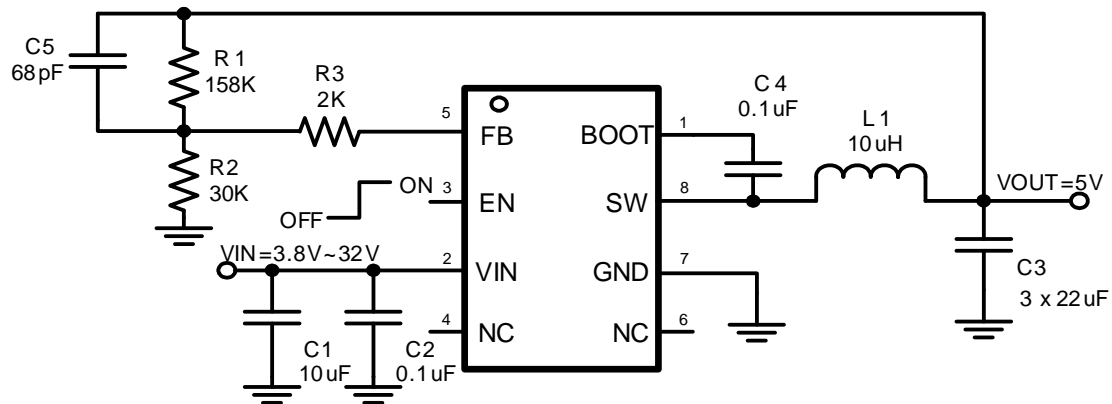

Figure 12. 24V Input, 5V/2A Output
The SCT9320 features external programmable output voltage by using a resistor divider network R_1 and R_2 as shown in the typical application circuit Figure12. Use equation (11) to calculate the resistor divider values.